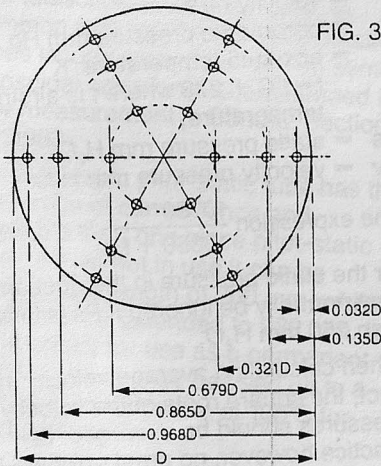
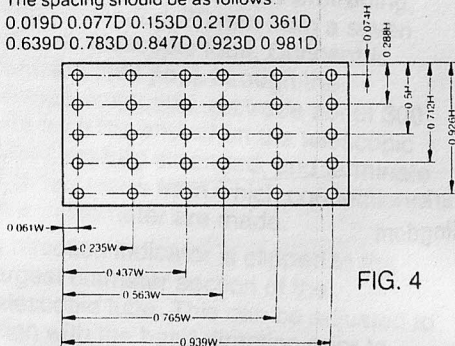

FIG. 3
FIG. 4
3.1 To determine the velocity or volume flow in a ducted system it is usually necessary to carry out a 'traverse' with the pitot-static tube in a plain section of duct, and at right angles to the duct walls. If possible, the section chosen should be at least six diameters (or equivalent) downstream of any bend or obstruction in the system. Drill holes at the appropriate points in the duct wall to enable the pitot-static tube to be inserted and moved successively to the various positions required. For recommended traverse positions see fig 3 for circular ducts and fig 4 for rectangular ducts.